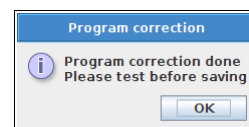

Figure 2.16: Correction done
- (14) Another popup tells when the corrected is done. As the correction can take some time, please be patient, see figure 2.16. If the correction failed, please verify your key-waypoints and improve their accuracy.